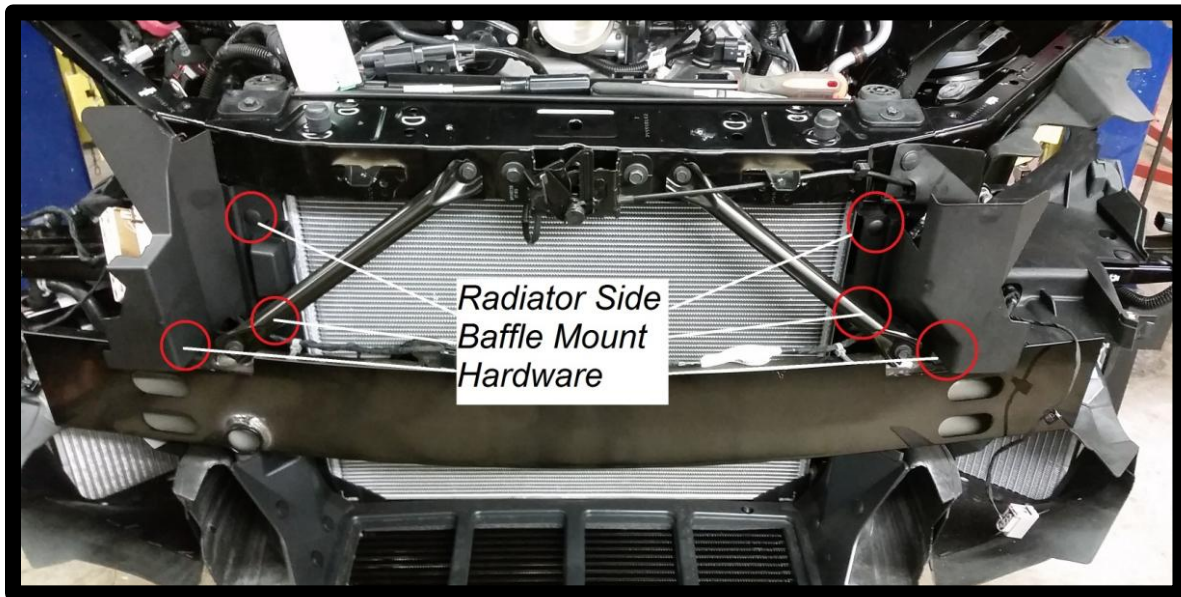

Figure 16: Removing Radiator Side Baffles
18. Continuing with disassembly, the radiator side baffles will be removed and discarded. This is to make room for the intercooler inlet and outlet tubes. There are three plastic retainers per side, see Figure 16.